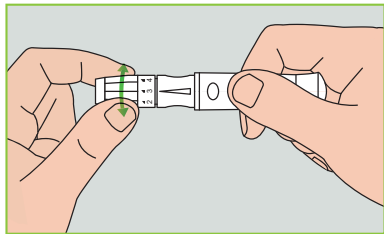

Figure 89
**4** Adjust the puncture depth by rotating the depth adjustor (Figure 89). The lancing device has 5 puncture depth settings. To reduce discomfort, choose the lowest setting that still produces an adequate blood sample.